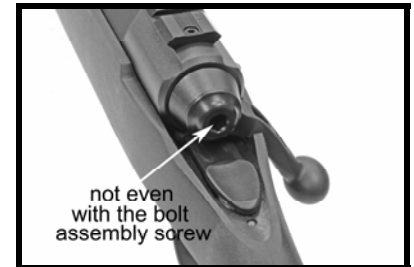

FIGURE 8
2. Uncocked – when the end of the ‘indicator’ is not even (inside) with the end of the bolt assembly screw (see FIGURE 8).